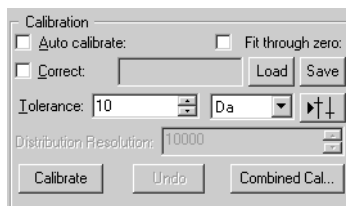

Figure 27.16 Calibration window options for combining calibrations
4. Press the **Combined Cal...** button shown below in Figure 27.16.